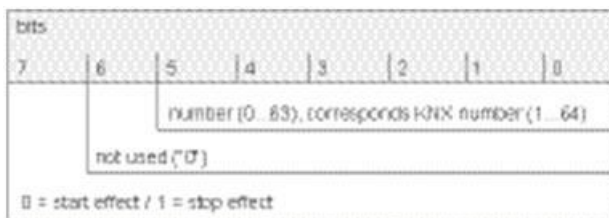

Figure 58: Structure of the object value for the effect extension
Just like scenes, effects possess KNX numbers (1..64). These KNX numbers can be used to start and also stop individual effects using the extension object of the effect function. The KNX numbers are configured individually for each effect. KNX numbers must be unique. It is not possible to assign the same KNX numbers to multiple effects. The structure of the telegram value for the effect extension is orientated to the KNX DPT 18.001, which is also used in the scene extension (Figure 58).
- i It should be noted that the object value of the extension input is always "1" less than the configured KNX number, in accordance with KNX DPT 18.001 (Figure 58). Example: KNX number = "1" -> Value in extension object = "0" -> The value "0" recalls the effect with the KNX number 1. The value "1" starts the effect with the KNX number 2. This applies appropriately for all other effects and KNX numbers.